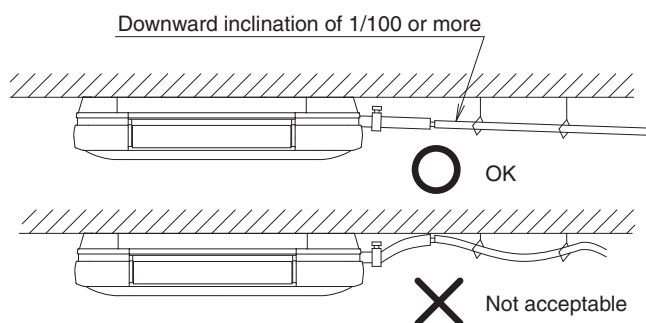

Fig. 28
- Install the drain piping as short as possible with downward inclination of 1/100 or more and without where air may stagnate. (Refer to Fig. 28)